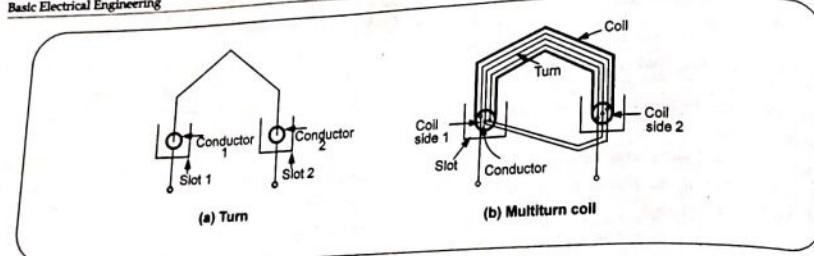

Fig. 9.6.1
2) Turn : A conductor in one slot, when connected to a conductor in another slot forms a turn. So two conductors constitute a turn. This is shown in Fig. 9.6.1 (a).
3) Coil : As there are number of turns, for simplicity the number of turns are grouped together to form a coil. Such a coil is called multiturn coil. A coil may consist of single turn called single turn coil. The Fig. 9.6.1 (b) shows a multiturn coil.
4) Coil side : Coil consists of many turns. Part of the coil in each slot is called coil side of a coil as shown in the Fig. 9.6.1 (b).